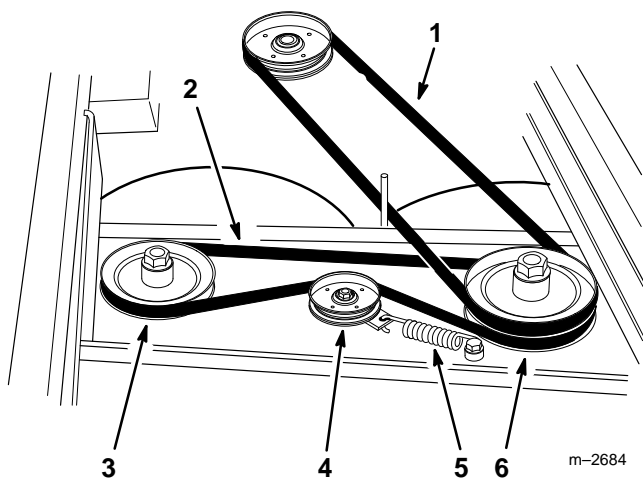

Figure 23
2. Grease the fittings on both spindle bearings (Fig. 23).
4. Disconnect the idler arm spring to relieve tension on the idler pulley, then remove the worn deck belt (Fig. 23).
5. Install the new deck belt around the right spindle pulley, around the inside of the idler pulley, then around the lower pulley on the left spindle (Fig. 23).
6. Reconnect the idler arm spring (Fig. 23).